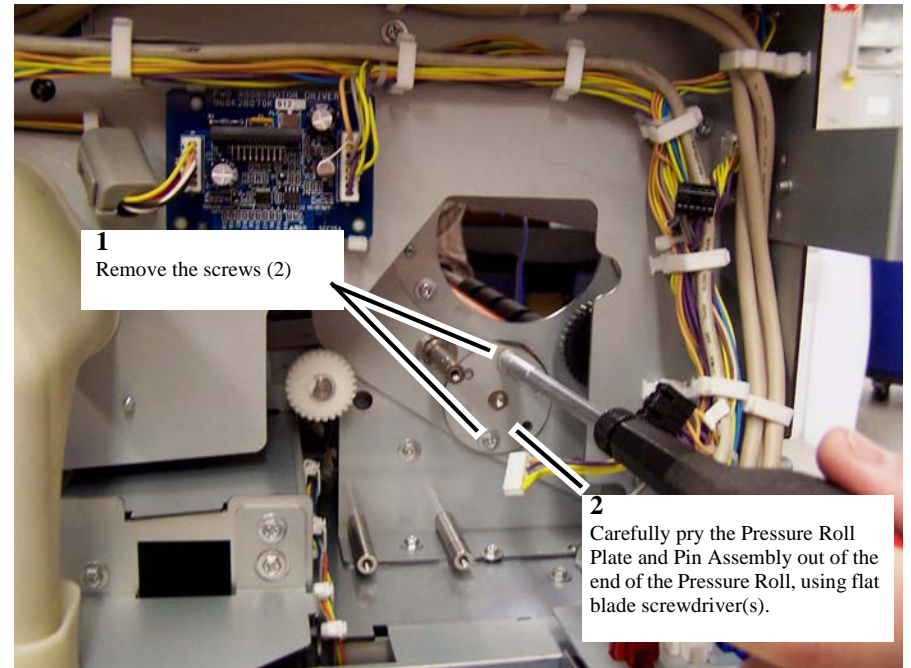

Figure 3 Removing the right end Pressure Roll Plate and Pin Assembly
- a. Remove the Pressure Roll Plate and Pin Assembly (Figure 3).